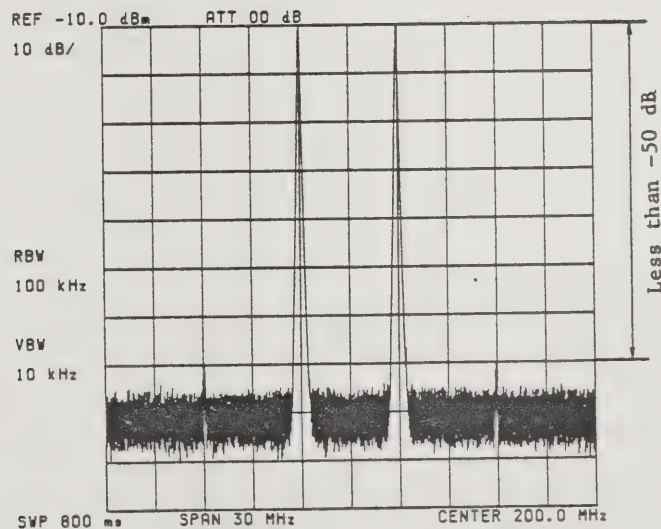

Fig. 12-35 Two signals separated
- (3) Read the two signal distortion level from the display, to make sure that it is within the specification. (Fig. 12-35)